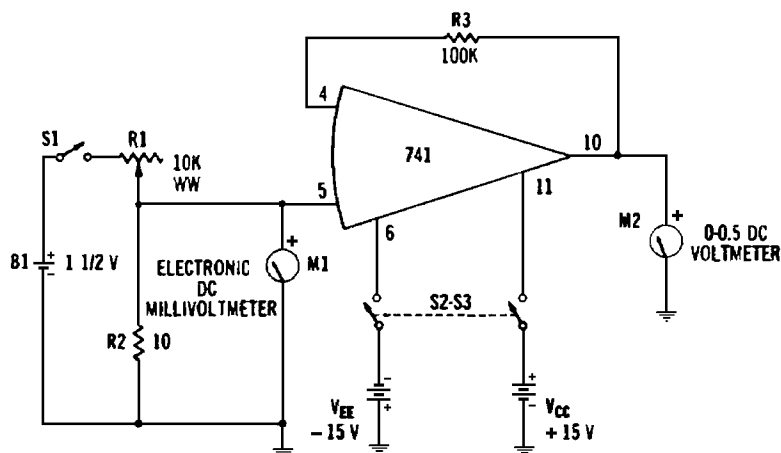

Fig. 2-9. Input offset voltage.
#### **Required Equipment (Fig. 2-9)**
1. With switches S1 and S2-S3 open and with potentiometer R1 set to maximum resistance, set up the test circuit as shown in Fig. 2-9.